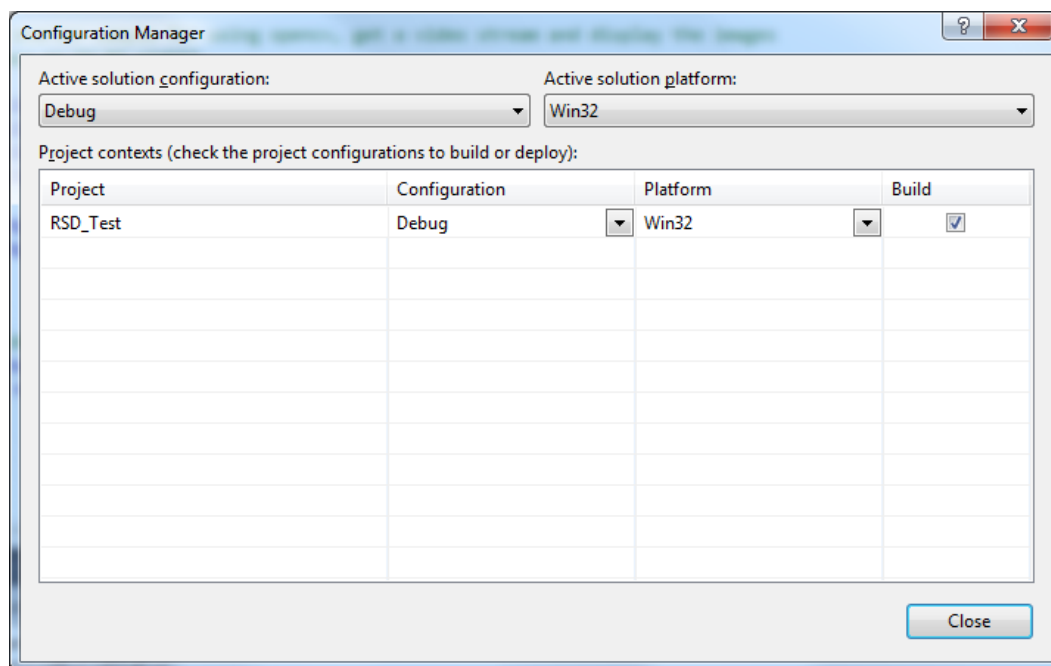

Figure 23 The Platform drop down list is shown
8. Select the Platform dropdown list for your project and select "<New...>" (see Figure 23).